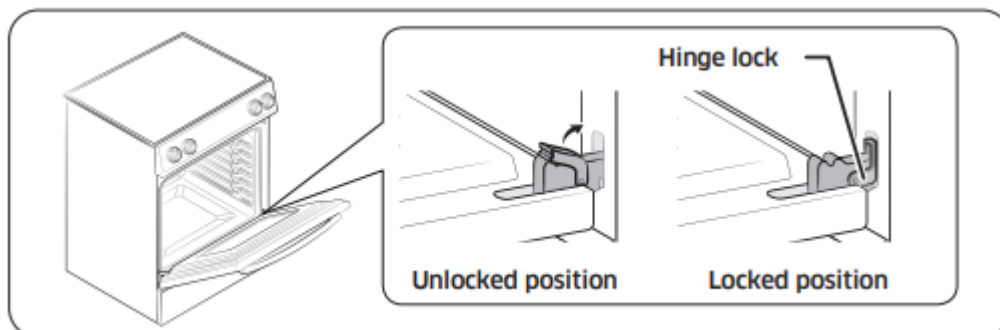

**Fig. 2**
5. Lift door up and out until the hinge arm is clear of the slot (Fig. 2).